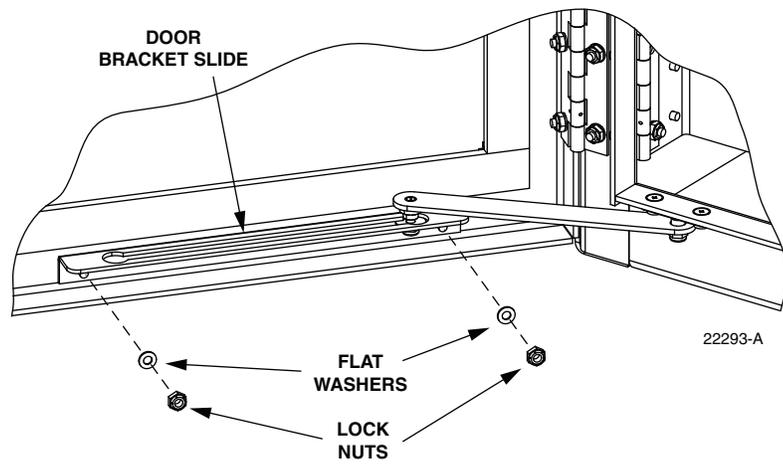

Figure 25. Door Linkage Hardware
2. Use a 3/8-inch nut driver to remove the locking nuts and washers that secure the door bracket slide to the bottom edge of the door as shown in Figure 25. Save the nuts and washers for reuse.